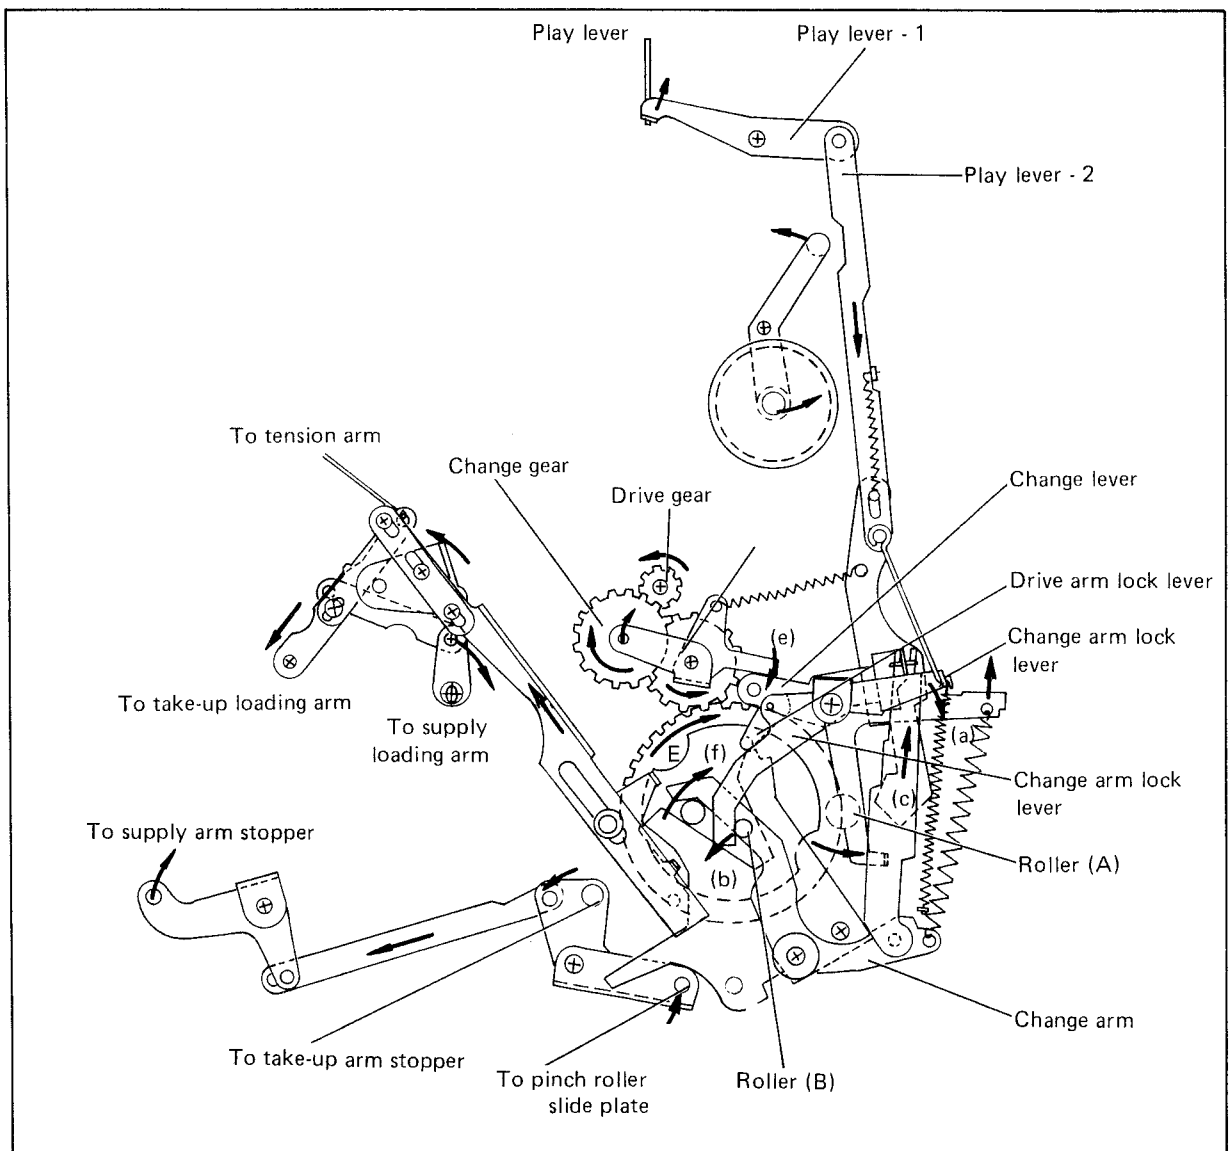

Fig. 2-14 Unloading mechanism (Bottom view)
Refer to Fig. 2-14, Unloading mechanism (Bottom view). When the STOP key is pressed, from the Play mode, the play function mechanism is released from the lock, so that the play lever-1 and -2 which lock the change arm lock lever through the rod is moved to arrow (a) and the change arm lock lever is turned clockwise (a) by the force of spring. Also the drive arm lock lever releases from the drive arm then the drive arm becomes free. When the change arm lock lever turned clockwise, the roller (B) fixed on the change arm becomes free so that the change arm turns counterclockwise (b) by the force of spring. At this time, the other side of the change arm moves to arrow (c), so that the change lever turned to arrow (e). As a result, the change gear is contacted with